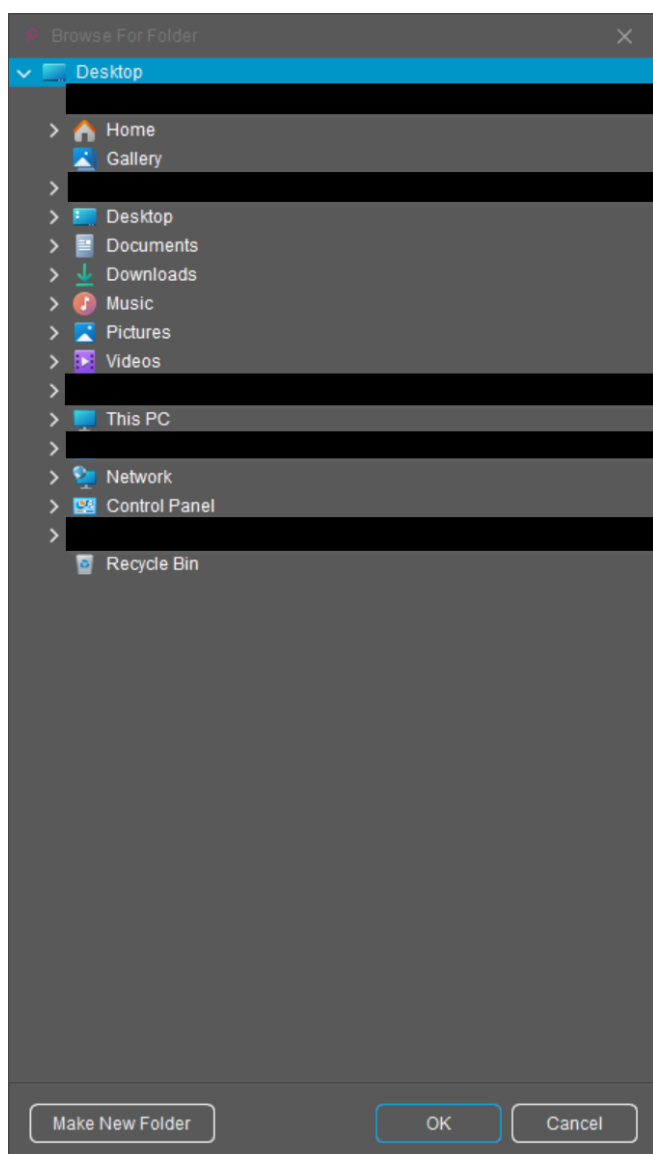

Figure 2 - Folder selection dialog
The application can monitor a directory on the file system. To configure this, use the input field provided, which includes a **selection button** on its right side. Click the icon to open the **folder selection dialog** (see *Figure 2 - Folder selection dialog* , where you can choose any folder you wish to monitor. After confirming your selection, the application will verify whether the selected directory can be monitored. Any issues will be indicated either through a **message box** or by a **small error icon** displayed to the left of the input field. The directory's validity is also checked automatically each time the application starts.
- **Button 1** (marked as **Number 1**) opens a selection dialog, identical to Figure 2 - Folder selection dialog. Once a folder is selected and confirmed, the path will be automatically inserted in the input field.